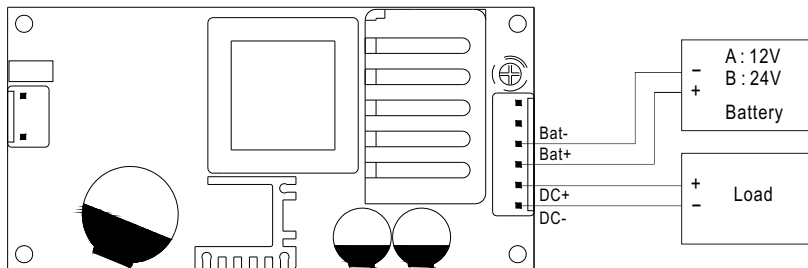

Fig 1.1 Suggested system connection
(1) Please refer to the Fig1.1 for suggested connection.